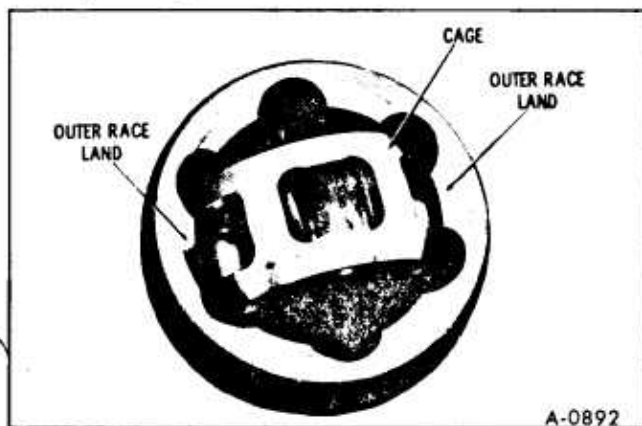
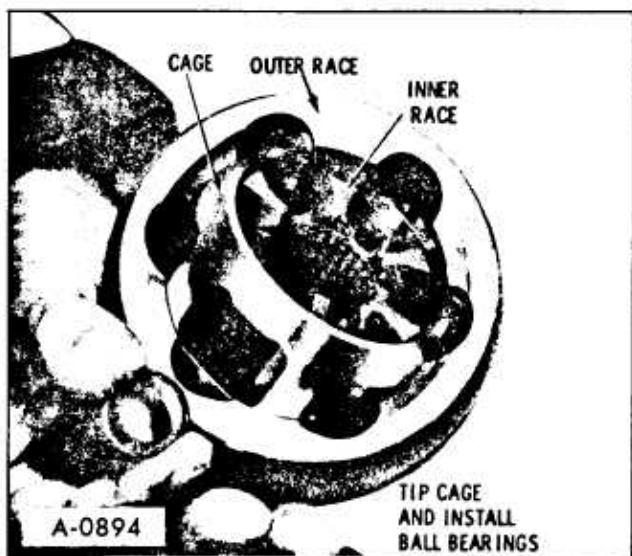

Figure 11—Positioning Cage
Figure 13—Installing Balls in Outer Race
11. Turn cage 90° and with slot in cage aligned with land in outer race lift out inner race and cage. (figure 11)
3. Insert cage and inner race into outer race by aligning windows on cage with lands on outer race. (figure 11) Pivot cage and inner race 90°, being certain that step on cage bore is positioned to inside of joint and snap ring groove in inner race is facing outside. (figure 13)
4. Insert balls into outer race one at a time by rocking assembly to each subsequent ball groove until all six balls are installed. (figure 13)